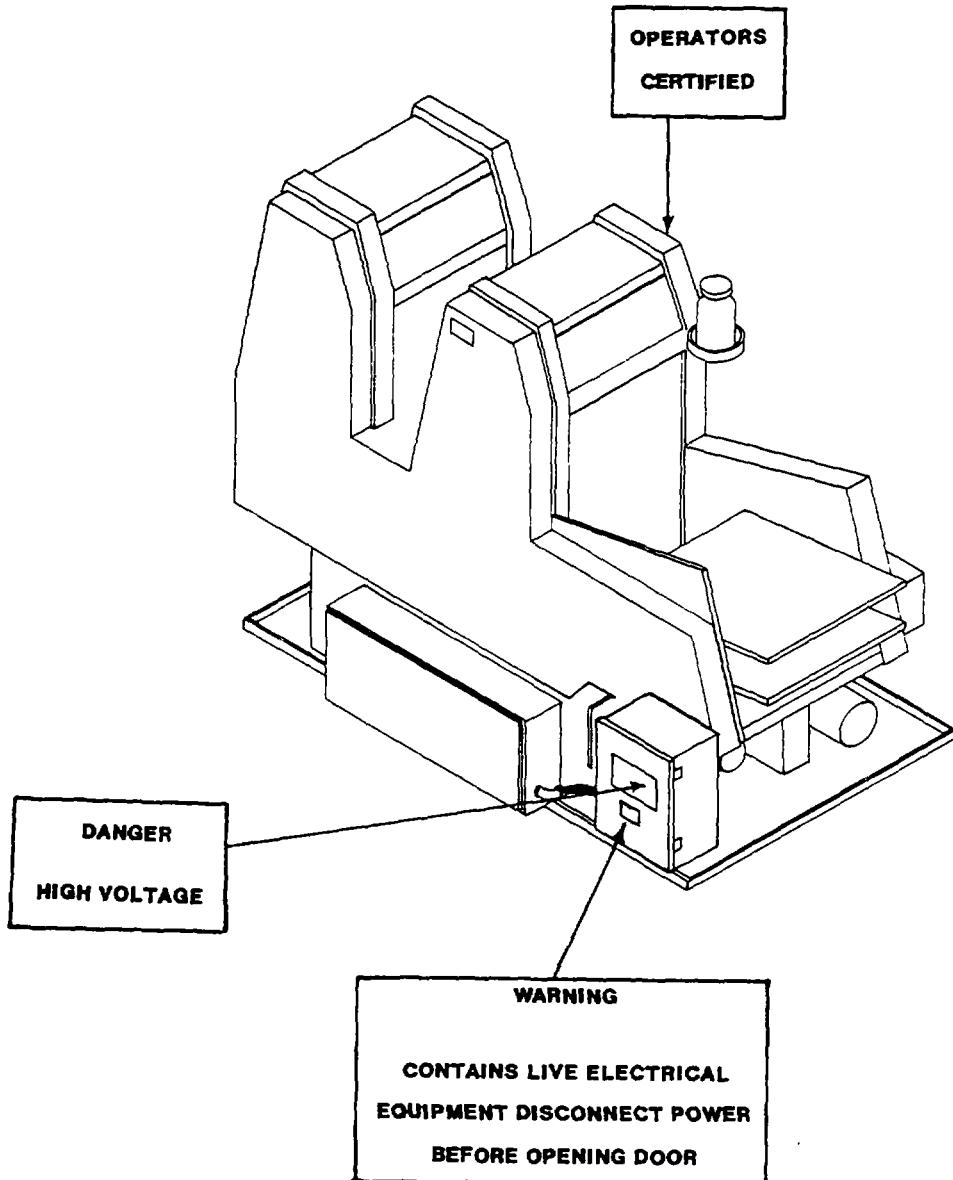

Figure 2-23. Printing Press Decal Locations
- d. Printing Press. Figure 2-23 below identifies decals added to the printing press.